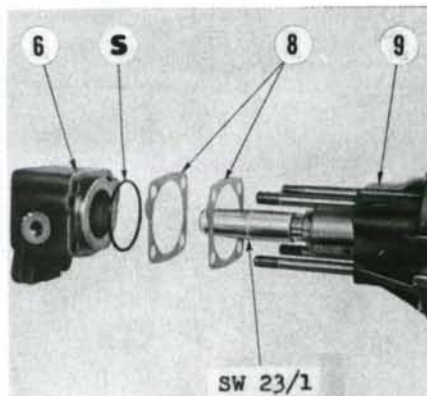

Fig. 11-Oil seal protector sleeve (SW 23/1 or FT.3147) should be used as shown. Refer to Fig. 9 for parts identification except for "O" ring seal (S).
Remove the four stud nuts securing steering column (1—Fig. 9) and lift off column and shaft (2). Remove and save shim pack (5). Install oil seal protector sleeve (Tool SW 23/1 or FT.3147) over steering shaft spline as shown in Fig. 11, gently tap valve housing (6) away from